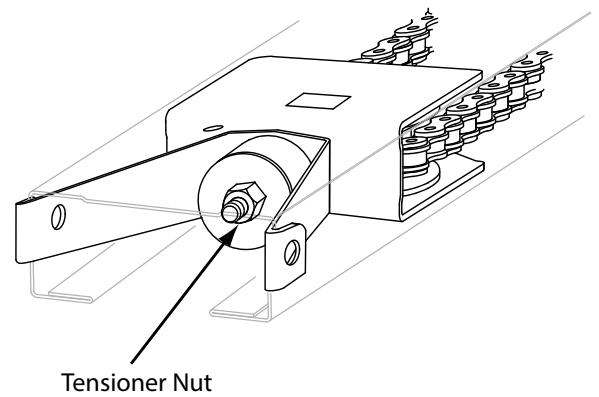

FIG. 4
9. Loosen Tensioner Nut from door end of Rail to create slack in Belt/Chain. FIG. 4.